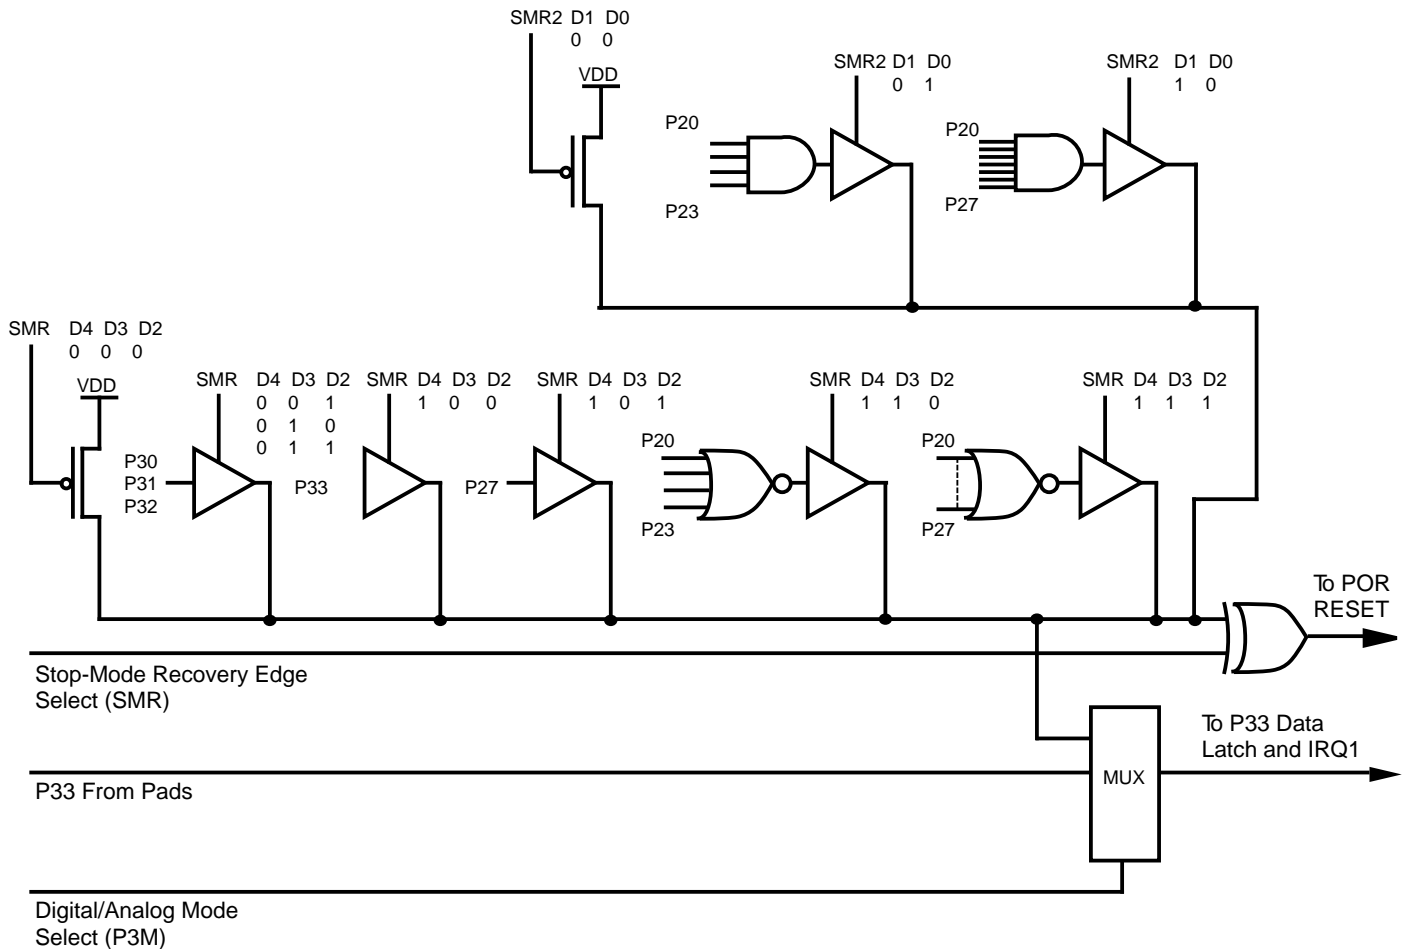

Figure 32. STOP-Mode Recovery Source
**STOP-Mode Recovery Source (D2, D3, and D4).** These three bits of the SMR register specify the wake up source of the STOP-Mode Recovery (Figure 32). Table 12 shows the SMR source selected with the setting of D2 to D4. P33-P31 cannot be used to wake up from STOP mode when programmed as analog inputs. When the STOP-Mode Recovery sources are selected in this register then SMR2 register bits D0, D1 must be set to zero.